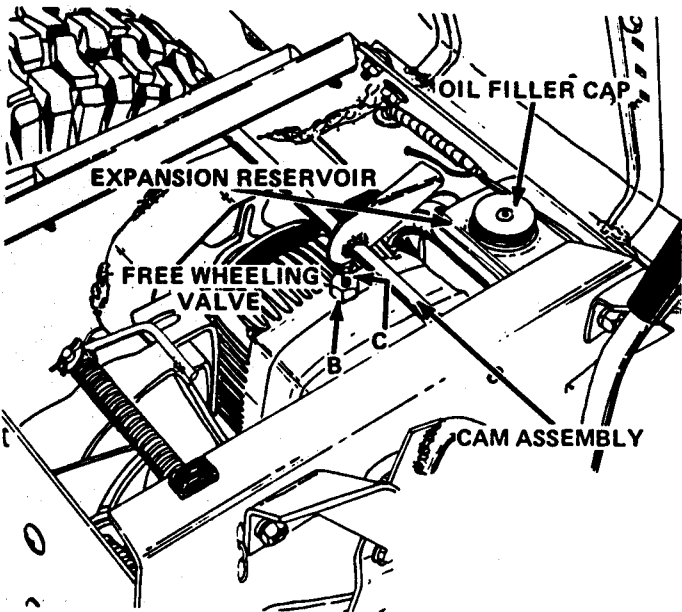

Figure 21
1. Thoroughly clean all dust, dirt and grime from the free-wheeling valve, the oil filler cap and surrounding areas, Figure 21.
3. Loosen nut B first and then valve actuating rod C, Figure 21, and remove the rod. Be extremely careful not to allow dirt to enter the transmission.
7. Replace free-wheeling valve actuating rod C and tighten nut B, Figure 21, to 30 inch-pounds. Tighten both parts carefully to prevent the small rubber o-rings inside the cap from becoming damaged.